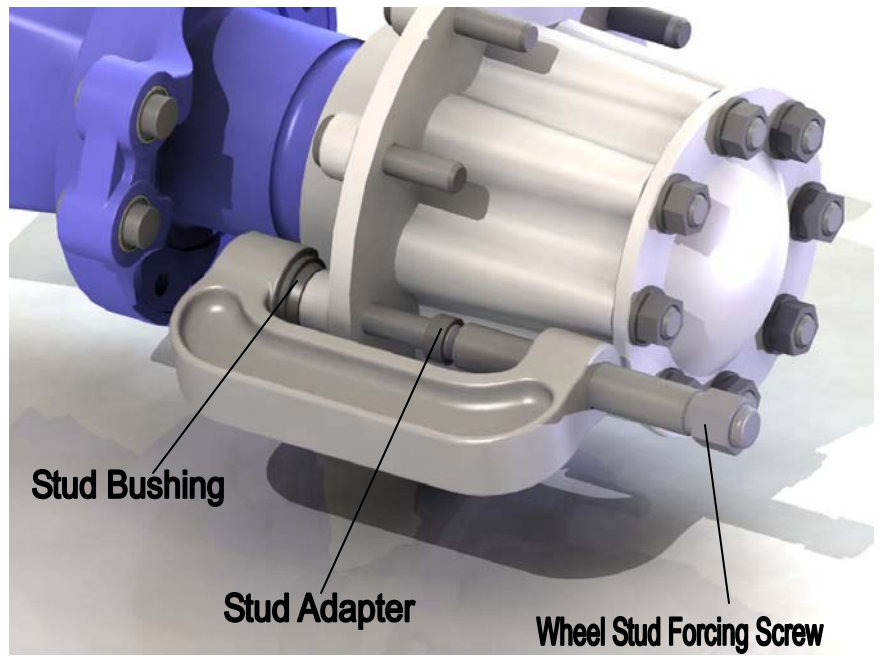

Figure 1
3. With the assembly in place as shown in Figure 1, advance the forcing screw until the wheel stud is removed.